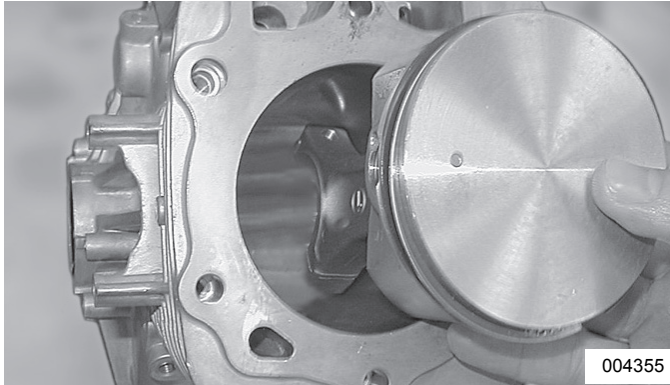

Figure 10-3. Remove Pistons and Connecting Rods
5. See Figure 10-3. Remove #2 connecting rod cap, and push connecting rod and piston assembly out through top of cylinder.